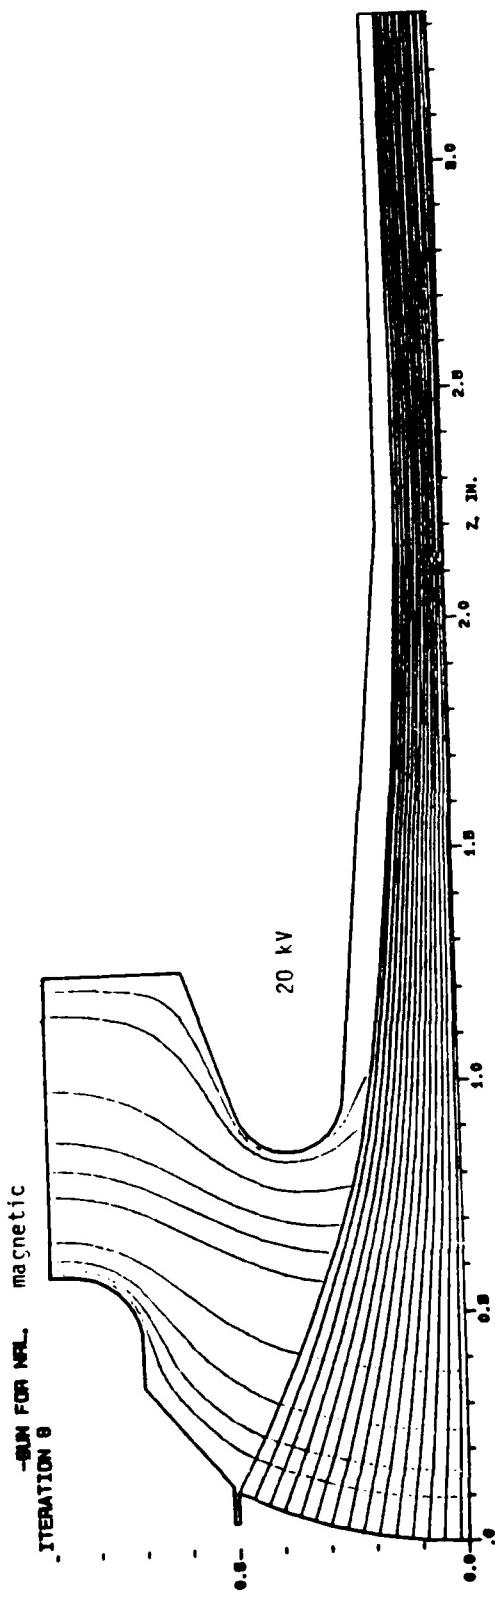
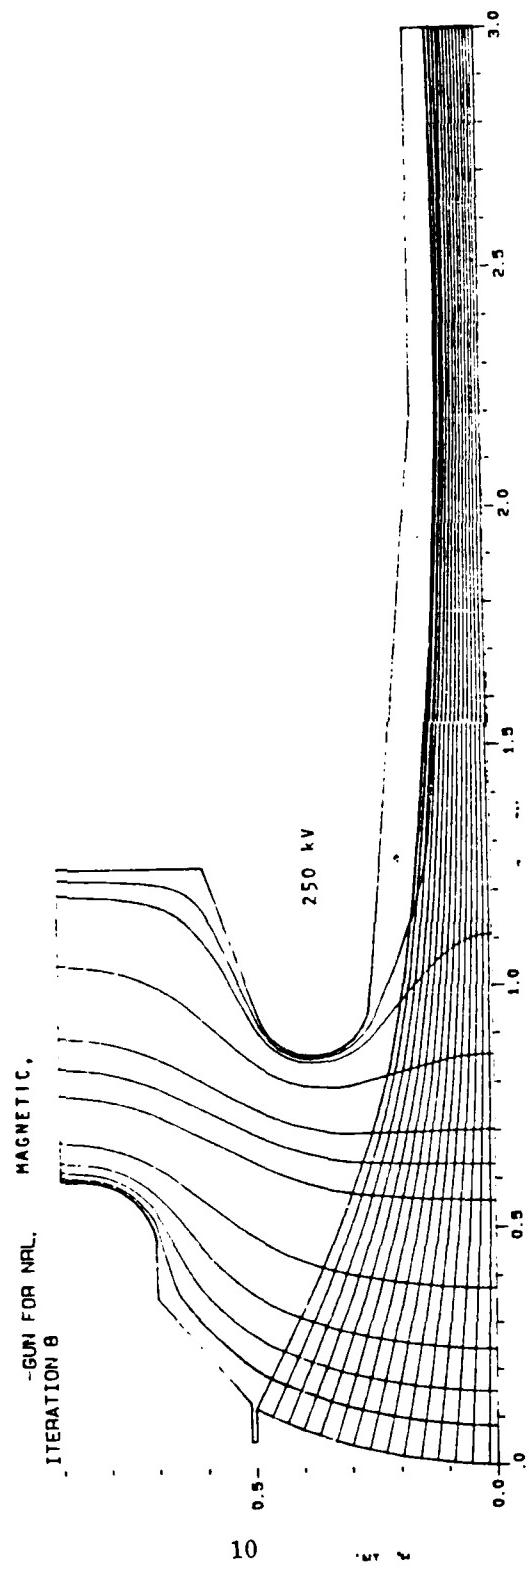

FIGURE 4. BEAM TRAJECTORIES IN CONFINED-FLOW MAGNETIC FOCUSING FIELD (20 kV)
FIGURE 5. BEAM TRAJECTORIES IN CONFINED FLOW MAGNETIC FOCUSING FIELD (250 kV)
2. The beam trajectories in a confined-flow magnetic focusing field were calculated and plotted by the computer for 20 kV and 250 kV as illustrated in Figure 4 and Figure 5 respectively.